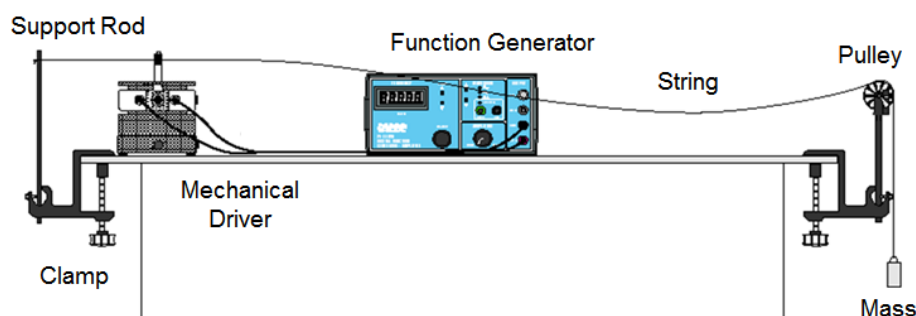

Figure 2. Experiment set-up
1. Set up the devices as Fig.2.